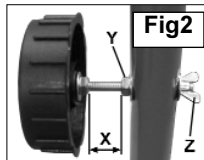

Fig.3
- Push a roll of masking tape onto each tape dispensing reel and spin it to make sure the tape is running true. Check that the tape dispensers are aligned with the ends of the paper roll as shown in fig.3. (The centre line of the tape should align with the edges of the paper roll.) The position of the tape dispensers can also be adjusted as shown in fig.2. To increase or decrease dimension 'X' loosen the wing nut 'Z' and roll nut 'Y' up or down the bolt as required. Retighten the wing nut.